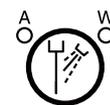

Fig.3-10 Coolant Water ON/OFF Switch
⑧ Coolant Water ON/OFF Switch (Fig.3-10) **E**